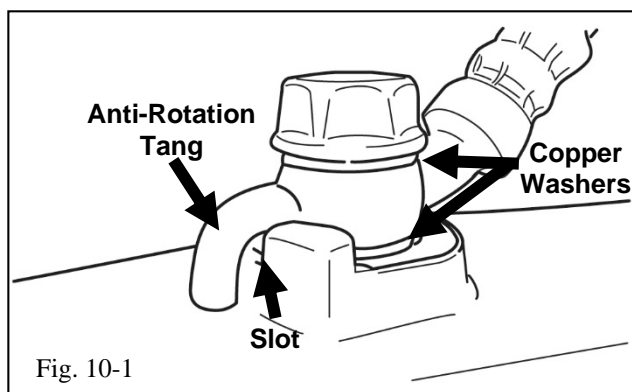

Fig. 10-1
- (a) Using two copper washers, one on each side of the banjo fitting on the end of the flexible brake hose, re-insert the union bolt through the banjo fitting and screw it into the caliper (Fig. 10-1). Note how the anti-rotation tang on the banjo fitting fits in the slot on the caliper.